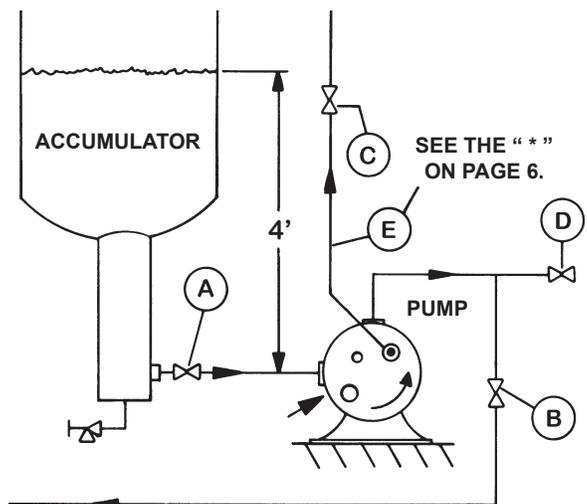
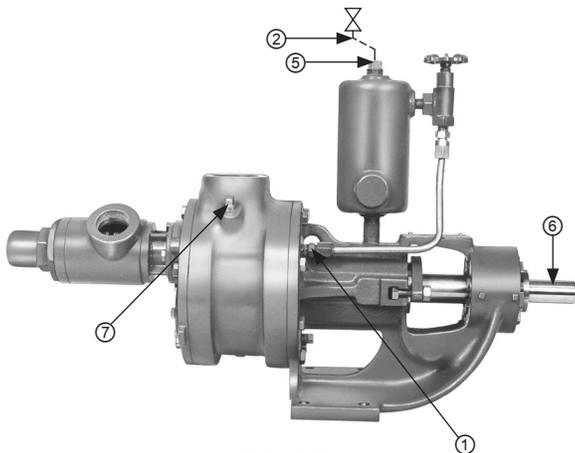
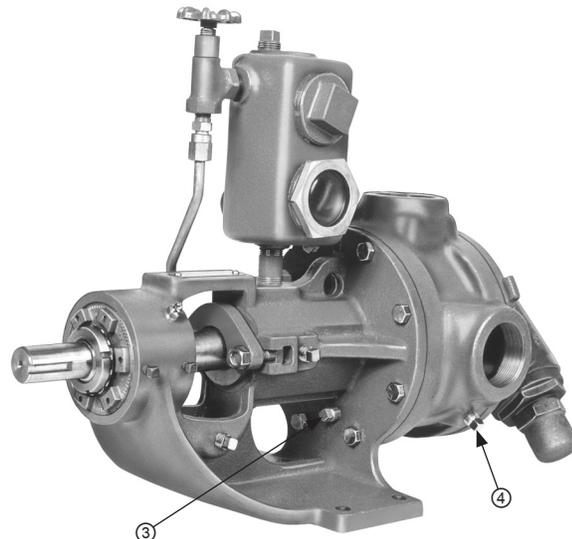

FIGURE 4
FIGURE 5
FIGURE 6
2. Close the inlet (suction) side shutoff valve. **A** in figure 4.
3. Close the discharge side shutoff valve. **B** in figure 4.
- Close all other shut off valves in lines connected to the pump. Typical shut off valves include **valve C in line E* in figure 4** from the pump mounted return-to-tank type relief valve to the accumulator or the valve from an in line mounted safety relief valve to the accumulator or the valve in a pressurizing line from the high pressure side of the system to the pump double seal oil reservoir, **line 2 in figure 5**.
* The segment of line (**E in figure 4**) between the return to tank pressure relief valve and the shutoff valve, C, should include a pressure relief valve vented to a safe area.
For systems with vent (purge or bleed) valves (e.g. **D figure 4**) go to step 6; for systems without a vent valve, go to step 7.
- A hose should be connected to any vent valve (e.g. **D in figure 4**) in the blocked off portion of the system. The open end of the hose should be placed under water in a tank containing at least 10 times as much water as there is ammonia in the blocked off portion of the system or the end of the hose should lead to a safe, well ventilated area. After the hose has been attached and the open end properly located under water, then open the vent valve. Check the open end of the hose to make sure the ammonia is venting. After ammonia has stopped venting, continue with step 8.
- If there are no vent valves in the blocked off piping, the Viking Model 4925 ammonia pump should be vented by carefully loosening the fitting (**1 in figure 5**) on the lower end of the tubing that runs from the pump bracket to the double seal oil reservoir.
If there is no line from the bracket to the reservoir, carefully loosen the pipe plug (drain), **3 in figure 6** towards the bottom of the bracket. This pipe plug is found only on the “K”, “KK”, “LQ” and “LL” 4925 pumps. The small “HL” 4925 does not have one. When working on an “HL” 4925 that has no line between the bracket and double seal oil reservoir, carefully loosen the pipe plug, **4 in figure 6**, in the suction port of the pump.
- Carefully loosen any unions or tubing fittings in any other lines to the pump that have been blocked off by closing the shutoff valves so that venting from these segments of the system can be accomplished. Typical of such lines would be that from the pump mounted return-to-tank relief valve to the accumulator, **E* in figure 4**, or a line from the high pressure side of the system to the double seal oil reservoir, **line 2 in figure 5**.
- Carefully loosen the fill plug, **5 in Figure 5**, in the top of the double seal oil reservoir.
- After the ammonia has stopped venting, turn the pump shaft, **6 in figure 5**, over for at least 10 complete revolutions. This will make sure that there is no pocket of accumulated ammonia that has not been exposed to a venting point.
- Carefully loosen the plugs, **4 in figure 6 and 7 in figure 5**, in the suction and discharge ports of the pump. If ammonia continues to vent, wait until the venting stops. When venting from all the loosened connections stops, then complete the loosening of the fittings and complete the removal of the plugs.